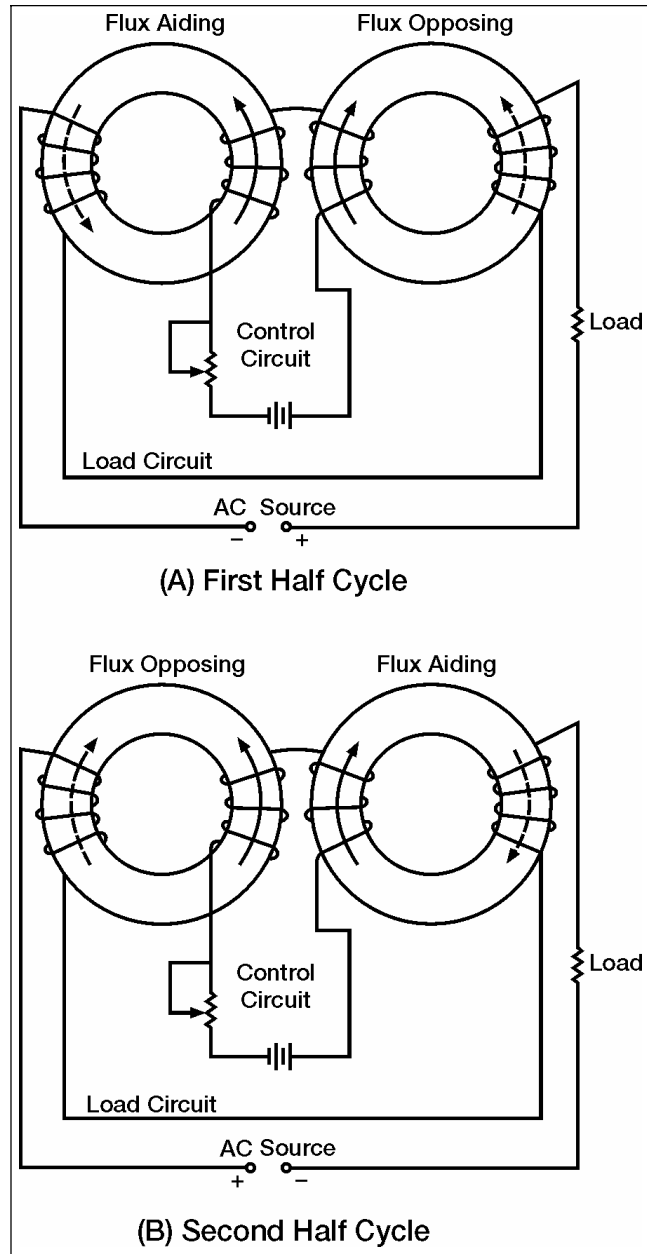

Figure 7-34. Toroidal Saturable-core Reactor
7-121. Figure 7-34 shows another approach to solving the problem of load flux affecting control flux. Figure 7-34 shows a toroidal saturable-core reactor. The shape of these cores is a toroid (donut shape). The windings are wound around the cores so that the load flux aids the control flux in one core and opposes the control flux in the other core.
7-122. During the first half cycle, the flux aids in the left core and opposes in the right core (see Figure 7-34, view (A)). During the second half cycle, the flux opposes in the left core and aids in the right core (see Figure 7-34, (view (B))). Regardless of the amount of load flux or polarity of the load voltage, there is no net effect of load flux on control flux.